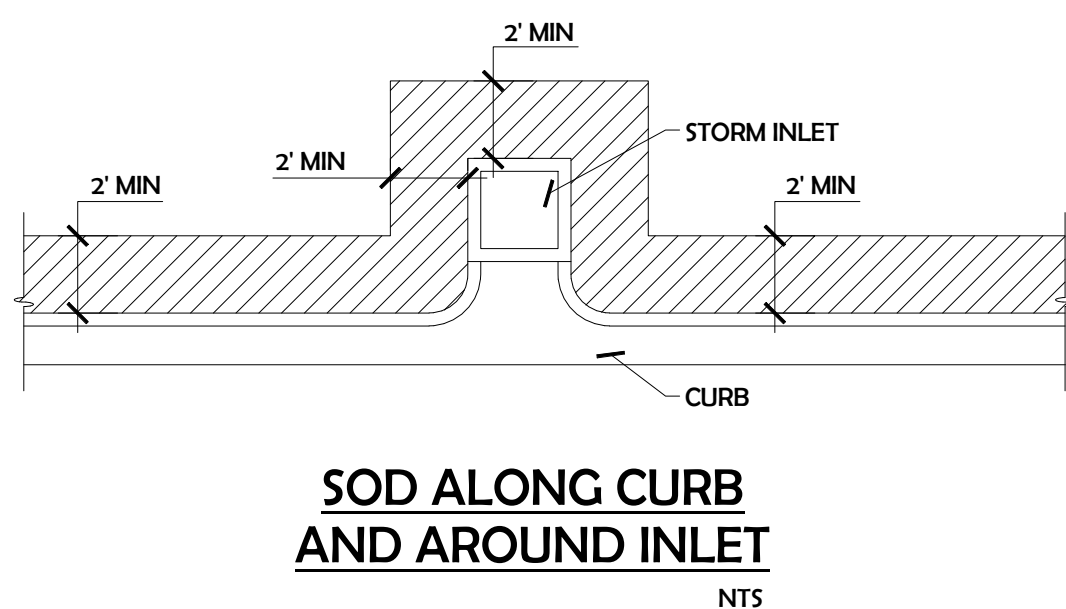

FIGURE 9
- A.5 SOD SHALL BE PLACED FOR A 3-FOOT WIDE STRIP ADJOINING ALL CURBING AND AROUND ALL INLETS AS SHOWN IN FIGURE 9. SOD SHALL BE PLACED BEFORE SILT BARRIERS, SHOWN IN FIGURE 6, ARE REMOVED.